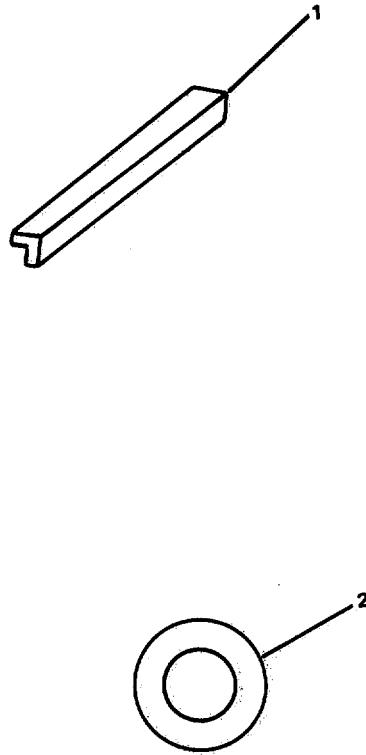

FIGURE 3-211. Repair Bar Angles and Bar Round Plates (Typical).
**3-226. Replace/Repair Welded Bar, Angles and Bar Round Plates . (Figure 3-211).**